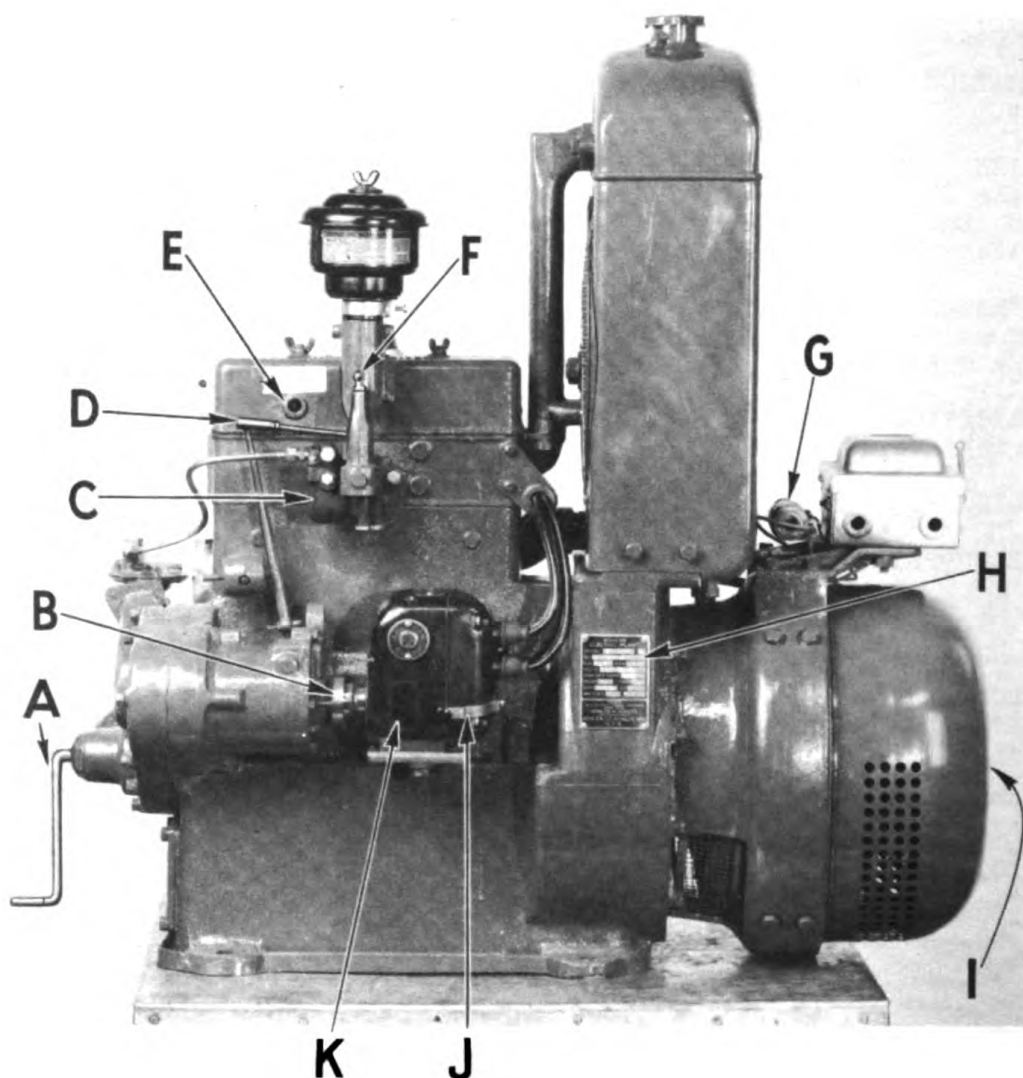

FIGURE 2
**OIL CIRCULATION:** After starting a new plant or after changing oil, look through the small hole in the cylinder head cover and observe whether the oil pump is delivering oil. Oil will be discharged from the copper tubing visible in this opening. In the event the oil is not visible, hold the butterfly valve of the carburetor almost closed so that the plant operates at very slow speed. Do not operate the plant if the oil does not circulate. See "E" Fig. 2